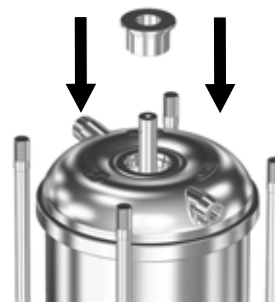
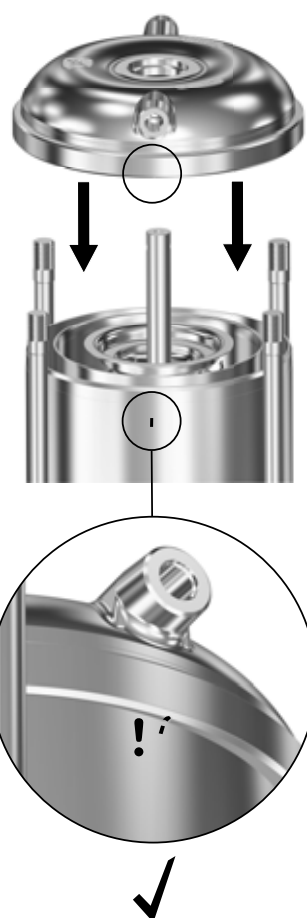

Fig. 5 Fitting service tool J in the pump head cover (2).
Fig. 6 Aligning pump head cover (2) and sleeve (55)
5. Lubricate and install a new o-ring (37) in the pump head cover. See 7.2 *Lubricants*.
6. CR pumps only: Install the four screws (60) and the brackets (2c) in the pump head cover (2). See section 7.1 *Torques*.
7. Install the outlet part (3b) in the pump head cover (2).
8. Install the pump head cover (2) on the sleeve (55). Use service tool J to centre the chamber stack in the pump-head cover (2). See fig. 5. Note: Make sure to align the pump head cover (2) according to the alignment marks on the pump head cover (2) and on the sleeve (55). See fig. 6.